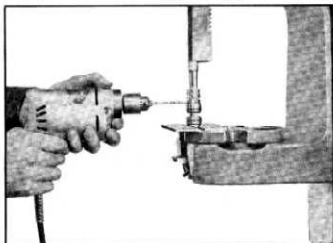

Fig. 195—Drilling New Pin Hole
- A new pin hole must be drilled through sleeve and gear. Locate hole position 90° from existing hole, center punch and then while supporting governor in press drill new hole through sleeve and gear using a No. 24 (.152") drill (fig. 195).